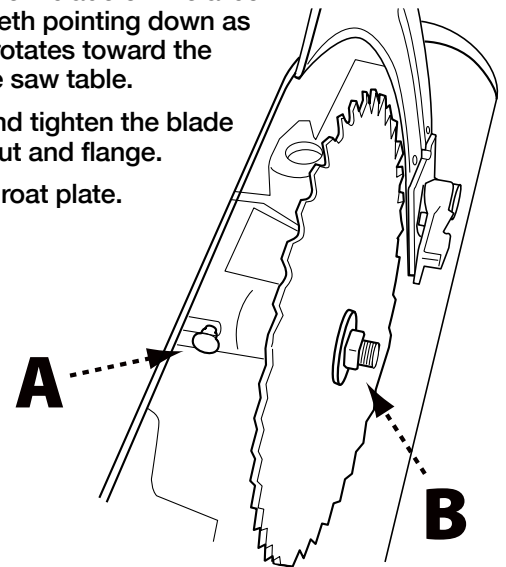

FIGURE 17
2. Push and hold arbor lock button (A) shown in Figure 17.
3. Use included arbor wrench to remove the blade retaining nut and flange (B). Remove old blade.